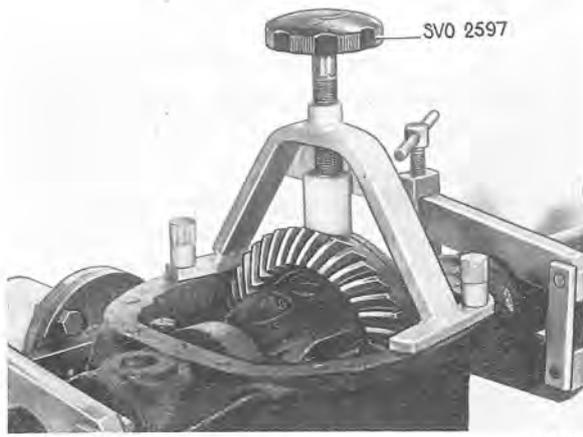

Fig. 4-161. Brake tool for differential
2. Fit on brake tool SVO 2597 as shown in Fig. 4-161. Apply marking blue to several teeth at three points on the crown wheel for possible warping. Rotate the pinion 10—12 turns in both directions and check the mesh marking pattern. With correct tooth mesh, the mesh marking pattern should be horizontal in the middle of the tooth but somewhat nearer to the toe than the heel. The patterns on the coast side and drive side should coincide too far towards the toe on the coast side, see not coincide, the pinion location must be adjusted